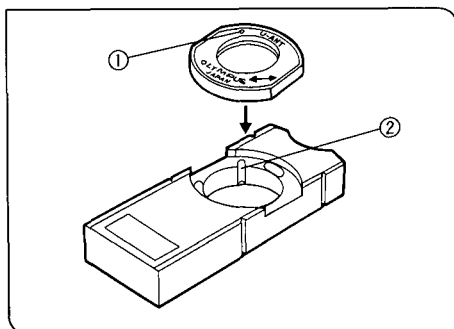

Fig. 100
(Figs. 100, 101)
2. Align the index ① of analyzer (U-ANT) with the groove ② in the dummy slider, and place it into the opening. (Fig. 100)